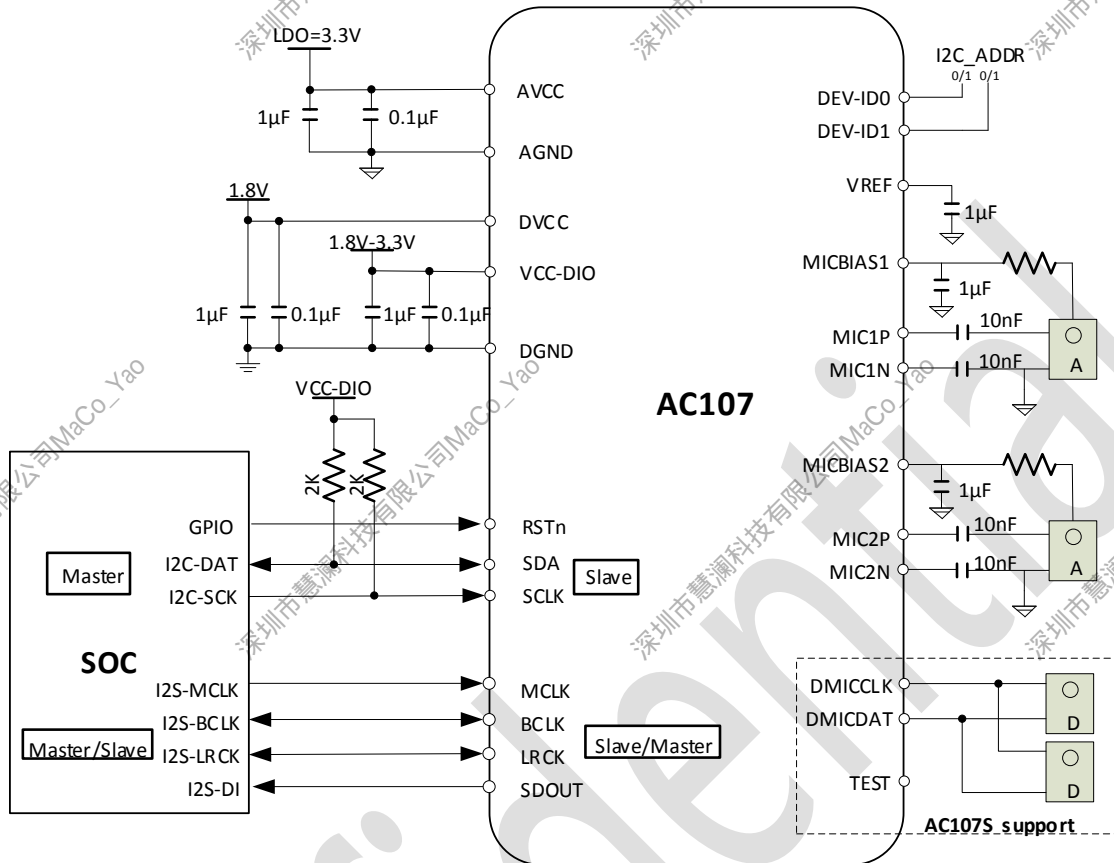

Figure 8-1. Typical Application Diagram
1. The decoupling capacitors for the power supplies must be placed close to the device terminals. Figure 8-1 shows the recommended decoupling capacitors for the AC107.